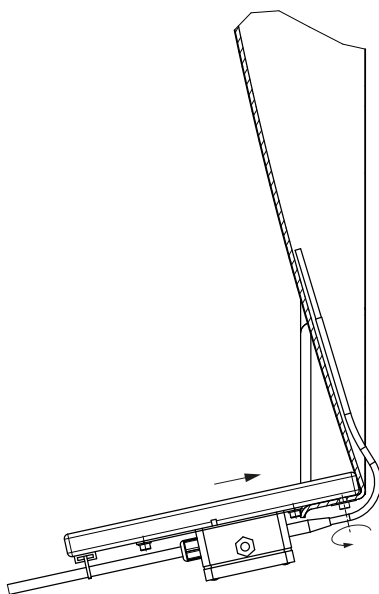

Fig. 3
2. Slide the aluminium profile up to the reflector plate and securely tighten the screw (1) ($M_A = 5 \text{ Nm}$) (Fig. 3).